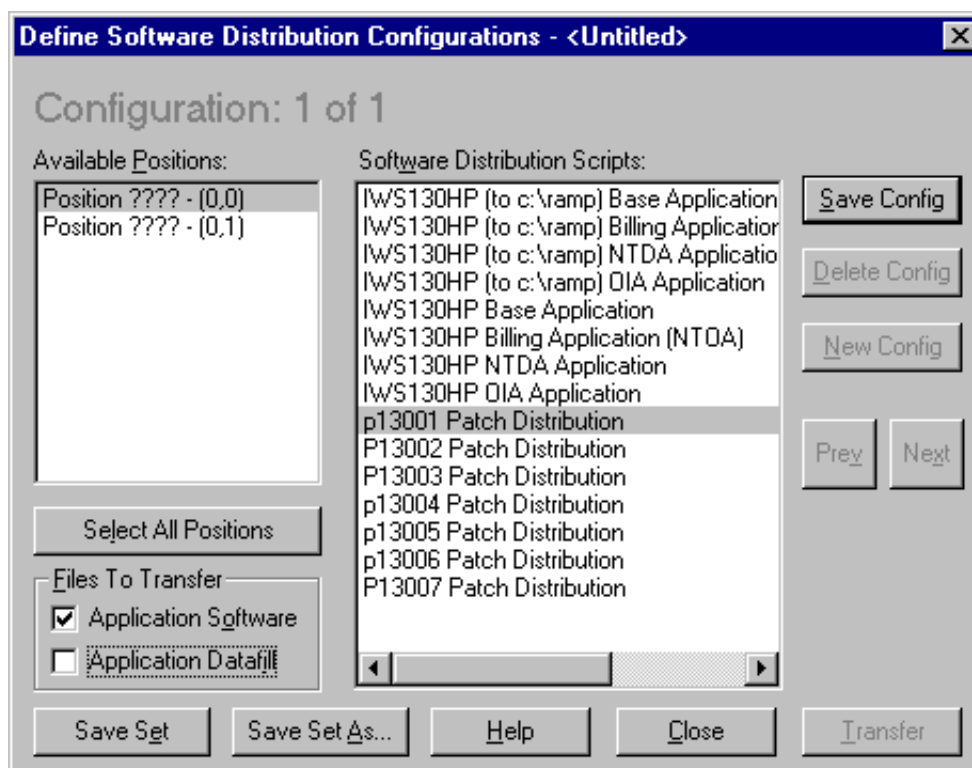

FIGURE 56. Example Software Distribution Dialog Box with Patching Files
3. **Press Alt+N to select New. This opens the Define Software Distribution Configurations dialog box, shown in Figure 56. In this window, you will define a configuration set to send the patches to the appropriate positions.**